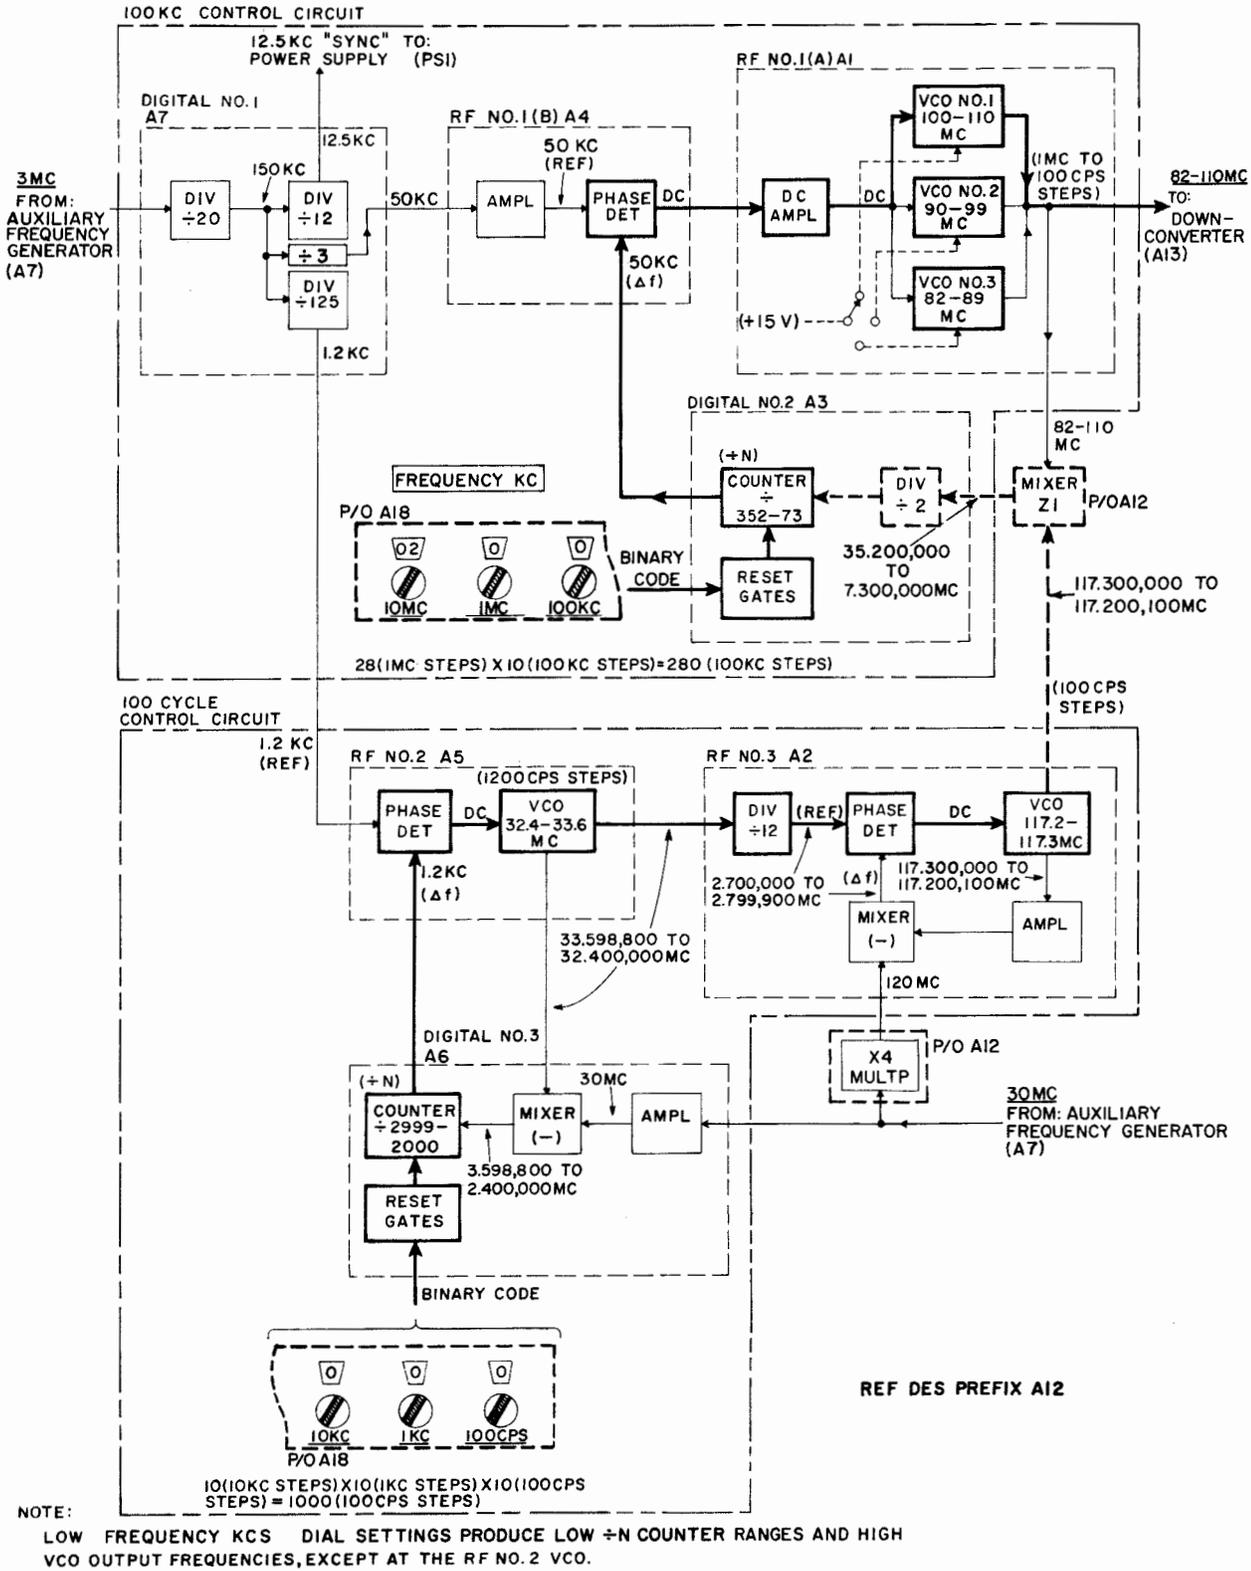

Figure 4-14. Synthesizer, Simplified Block Diagram
4-14. SYNTHESIZER A12. (See figure 4-14.)
The solid state synthesizer module contains seven plug-in printed-circuit cards. Digital techniques are employed to generate a larger number of precise injection frequencies, over a frequency range from 82 to 110 mc, which are supplied to down-converter A13. In addition, the synthesizer supplies a 12.5 kc "sync" frequency to the solid-state regulator circuits in power supply PS1. The following paragraphs contain a basic description of the synthesizer circuits based on the simplified block diagram shown in figure 4-14. Although the individual circuits are more complex than the block diagram indicates, their basic functions are accurately portrayed. A detailed description of each synthesizer circuit and its operating characteristics is provided in subsequent paragraphs.
(2) PHASE-LOCKED LOOPS. - Essentially, a phase-locked loop circuit for vco frequency control contains a phase detector, a mixer, and (for some vco circuits) a divide-by-N digital counter which serves as a variable frequency divider. The digital discriminator and phase detector for the three vco's in the rf no. 1 (A) card are located in the rf no. 1 (B) card, and the remaining loop circuit with a divide-by-N counter is located in the digital no. 2 card. The rf no. 3 card contains a fourth vco and includes a complete phase-locked loop. The fifth and last vco and its phase-detector is located in the rf no. 2 card, but the remainder of the loop circuit is in the digital no. 3 card.
During circuit operation, the vco output frequency is sampled and processed by the phase-locked loop circuit and applied to the related phase detector. When the (processed) sample frequency corresponds with the (fixed) reference frequency, the vco is "locked". The phase-locked loop circuits for the rf no. 1 (B) and the rf no. 2 cards are not as simple as the block diagram of figure 4-14 indicates. Actually, a ramp generator is employed which sweeps the vco over its tuning range prior to vco "locking". For the purpose of a basic synthesizer description, it can be assumed that the phase detector performs all necessary vco control functions. Complete circuit descriptions for each synthesizer module are given in subsequent paragraphs.
c. SYNTHESIZER OPERATION. (See figure 4-14.) - The 82 to 110 mc synthesizer output frequency range is controlled by setting the six FREQUENCY KC dials on the exciter front panel to the desired transmitting frequency in the tuning range from 02.0000 to 29.9999 mc. The six tuning dials, from left to right, select the exciter output frequency in steps of 10 mc, 1 mc, 100 kc, 10 kc, 1 kc, and 100 cps, for a total of 280,000 frequencies 100 cycles apart. To simplify the basic description of over-all synthesizer operation contained in the